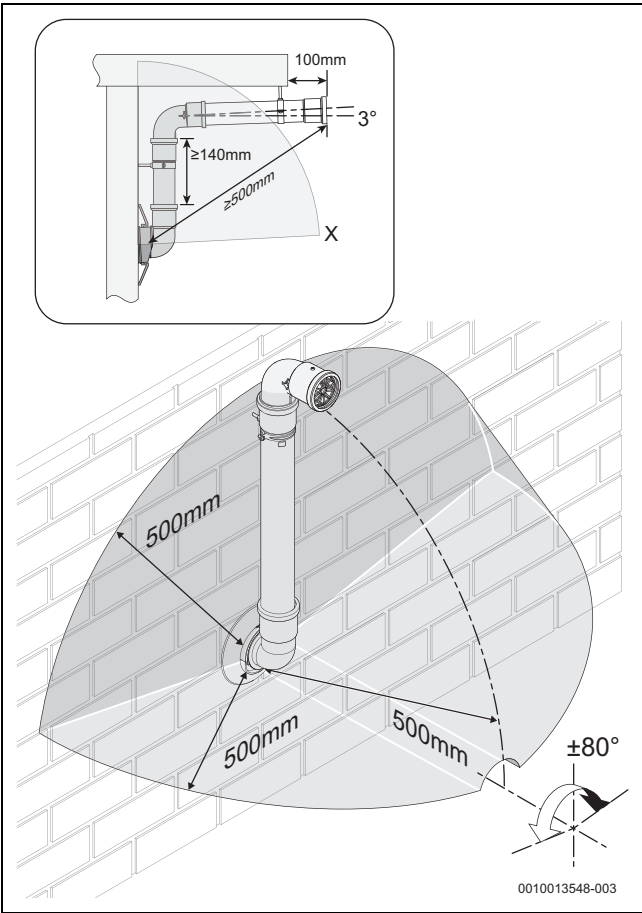

Fig. 29 Terminal exclusion zone
- Do not terminate the plume management inside the terminal exclusion zone (shaded area) shown in figure 29.